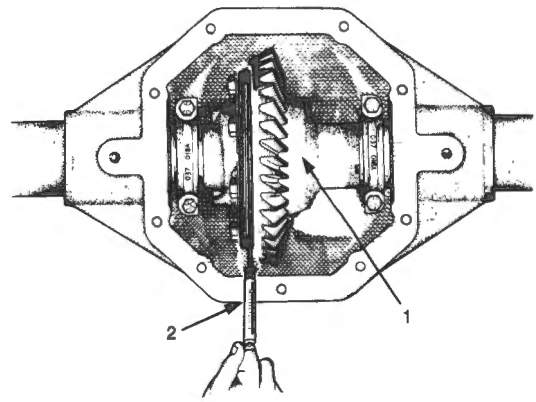

Fig. O-11
- 20 Wrap a cord round outside diameter of differential case flange and check pre-load by pulling on end of cord with a spring balance. Fig. O-11.